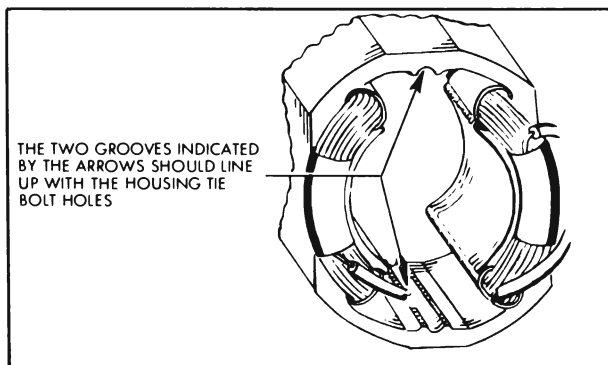

Figure 1-28—Aligning Field Coils
c. Align the field and housing according to the reference lines and start the field in the housing. A further check to insure alignment is shown in Figure 1-28.